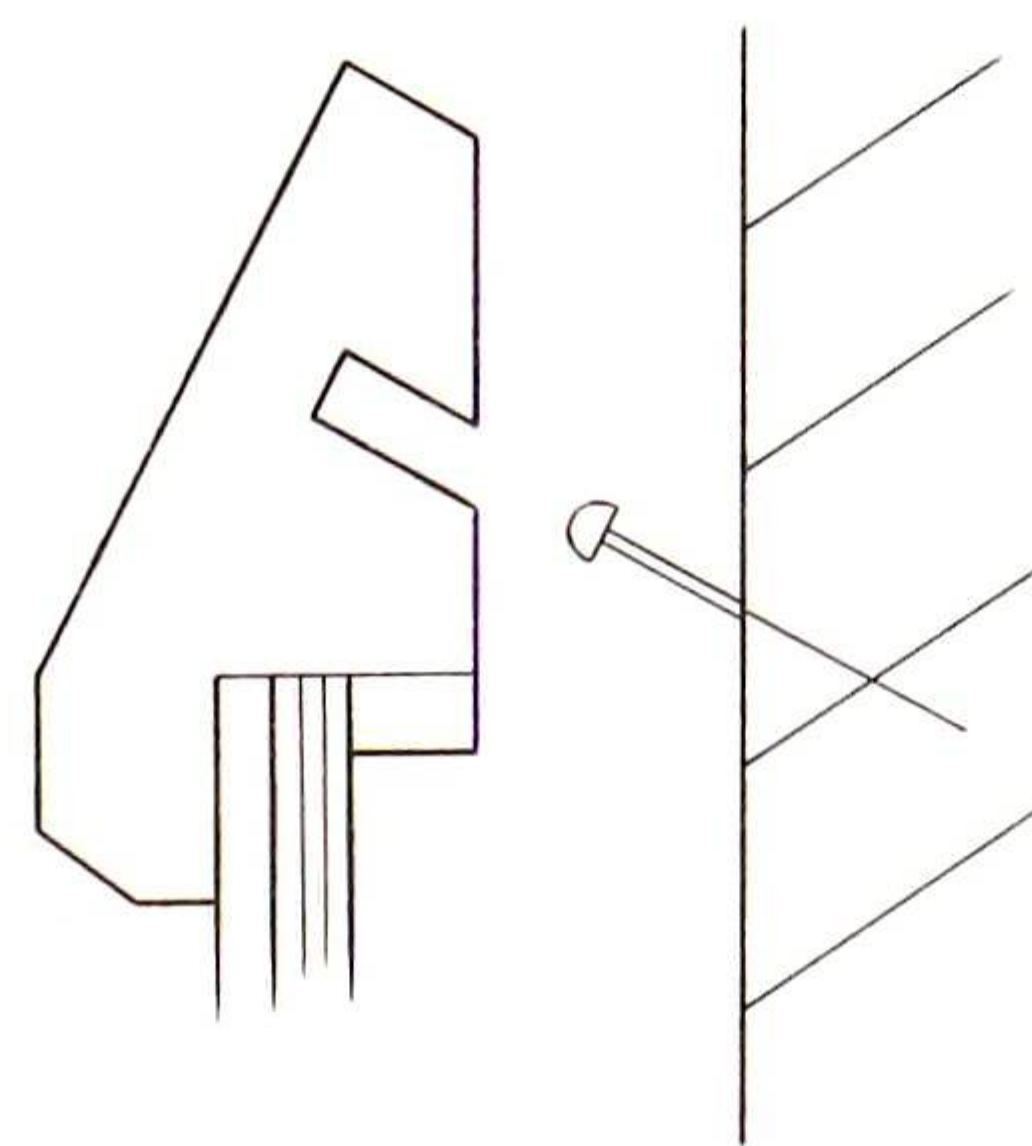

Fig. 8 Mounting the finished frame on a wall
8. Drill a small hole in the centre top of the frame at the back. This should be at a slight angle so the mirror or picture can be mounted on a vertical surface (Fig. 8).